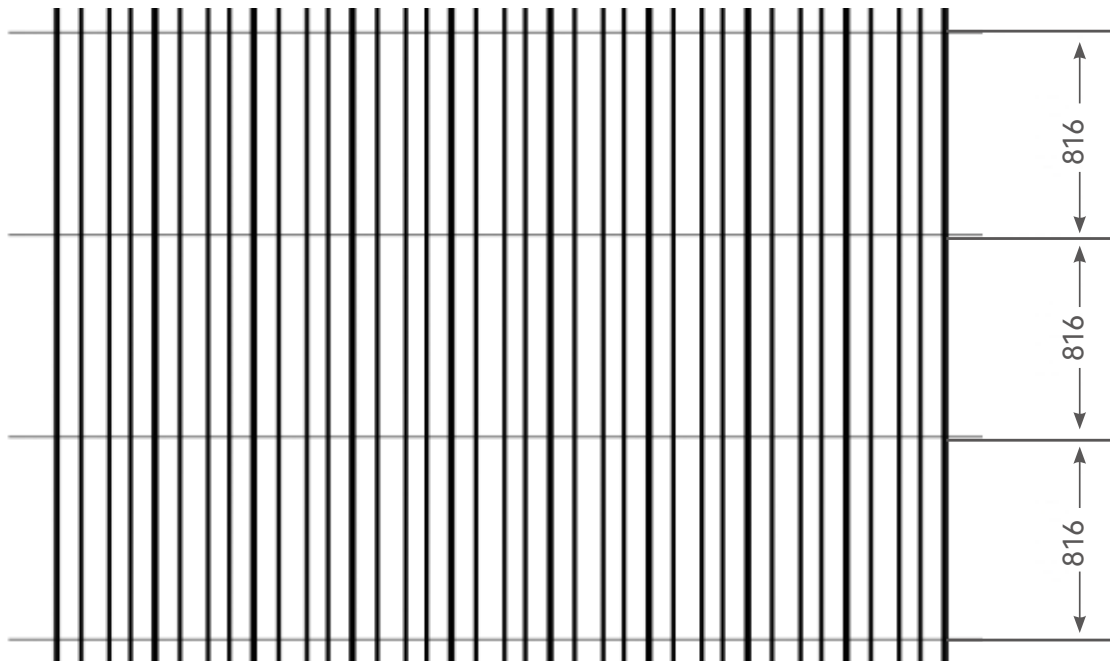

FIGURE 36
- ① Mark the position of Galaxy and the clamps with snapline, the centre line of each row of the clamp is $816 \pm 2\text{mm}$ apart, note that the snapline is perpendicular to the ridges of Klip-lok roofsheet(Figure 36)